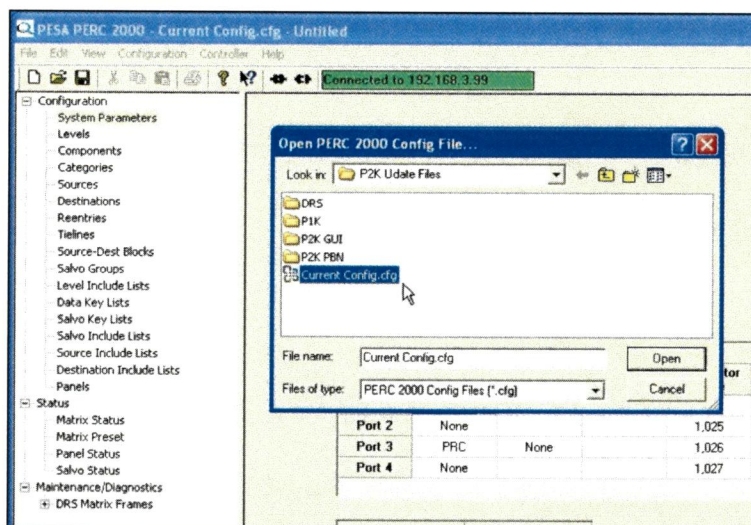

Figure 49. Configuration File Browse Box
6. The Open PERC 2000 Config File box, Figure 49, is displayed. Browse to the folder containing the configuration file, and click on the configuration filename. With the name of the configuration file appearing in the File Name box, click “Open” to load the file as the current configuration for the P2K GUI.